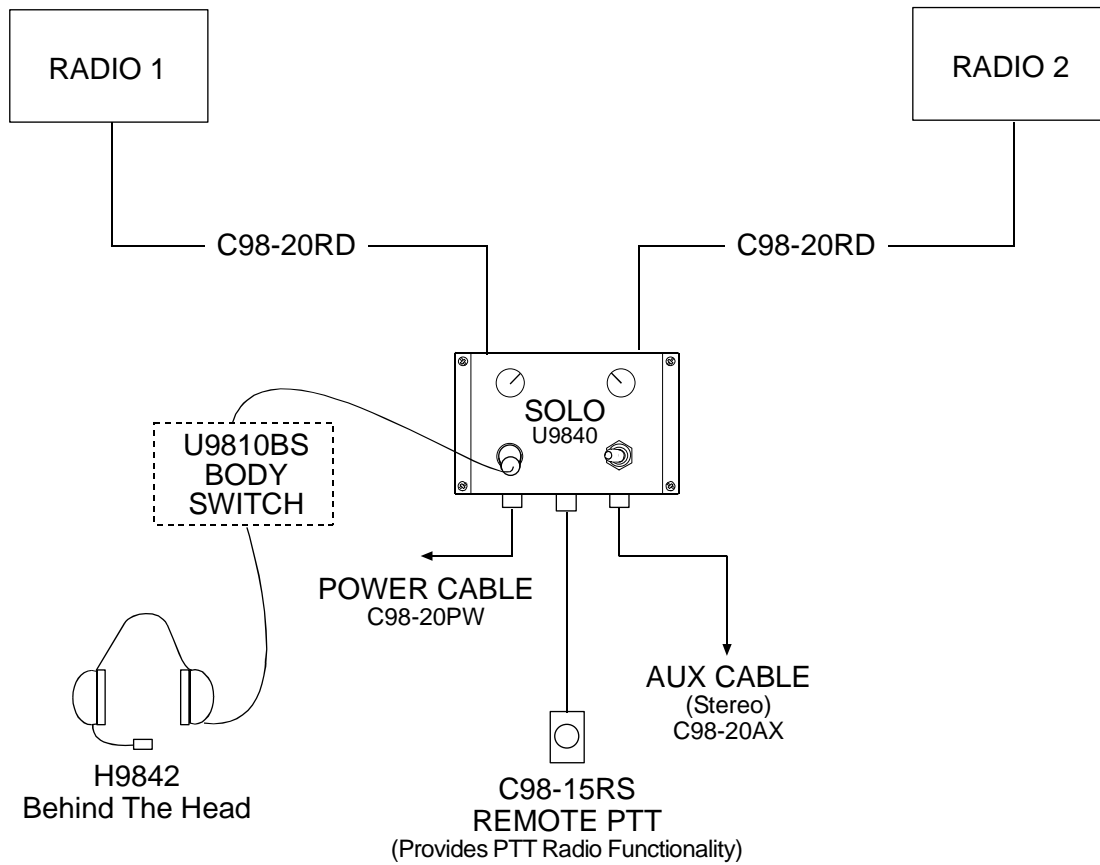

Figure 1: Typical Layout
Primary components of the system are indicated in **Table 1**. In addition, a basic layout of a the system is shown in **Figure 1**.
- q Determine which radio number this radio is (i.e., Radio 1/Radio 2) and connect Radio Cable to the Headset Station. See **Figures 1&4** for connector locations.
- q To connect the cable to the Headset Station, align keyways and push. Then push and turn collar clockwise until it stops. Pull back gently on the cable to ensure connector is properly locked. See **Figures 1&4** for connector locations.
- q Connect the cable to the jack on the Headset Station labeled “Power Cable”, see **Figures 1&4**. To connect the cable to the Headset Station, align keyways and push. Then push and turn collar clockwise until it locks into place. Pull back gently on the cable to ensure connector is properly locked.